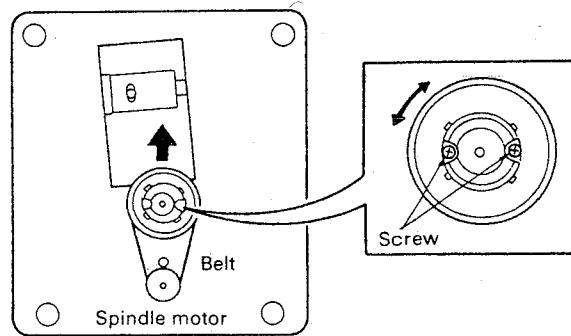

Fig. 15
2) Mount the lift gear (C) assembly ③ on the left side facing to the set. Align the markings of the gear and chassis as shown in Fig. 15.